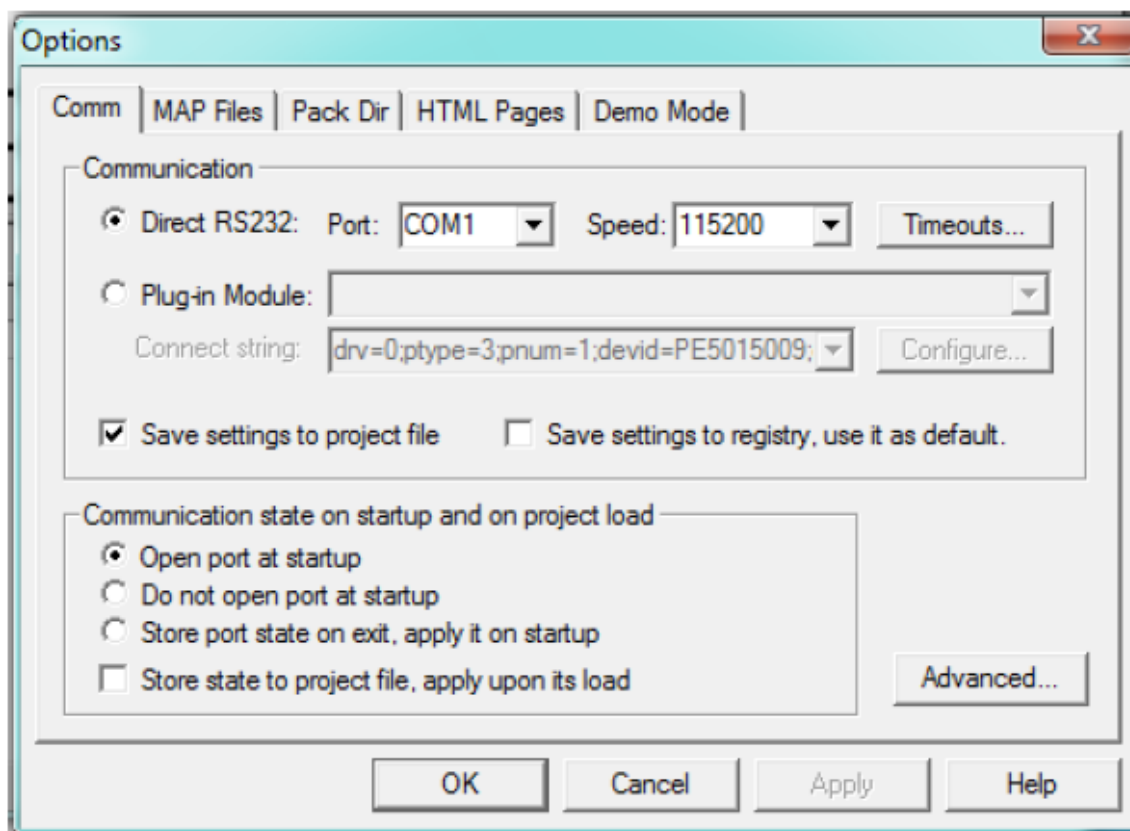

Figure 4. Build communication
1. First, open the GUI file in FRDMKL25Z_DEMO\gui and build the connection. Choose Project > Options and select the Comm tab. Set Port as the virtual serial port on the computer and set baud rate as 115,200. See Figure 4 as an example.